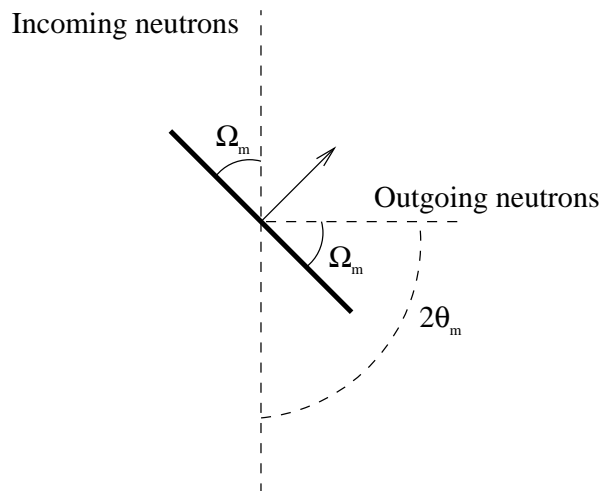

Figure 3: Illustration of the monochromator orientation.
1. Keeping your current components, insert a Monochromator_flat component (use the component library index to get the needed parameters) and a new set of PSD and L_monitor after the monochromator. Two new arms should be inserted to define the rotation point at the monochromator. One is used to rotate the monochromator, while the other rotates the instrument components that follow. Insert the two new arms at (0,0,2) relative to the origin and the monochromator at (0,0,0) relative to the monochromator arm. Also, add two new input parameters of your instrument, which we will call OMM (Omega Monochromator) and TTM (Two Theta Monochromator). These will define the angles of rotation at the monochromator as portrayed in Figure 3.